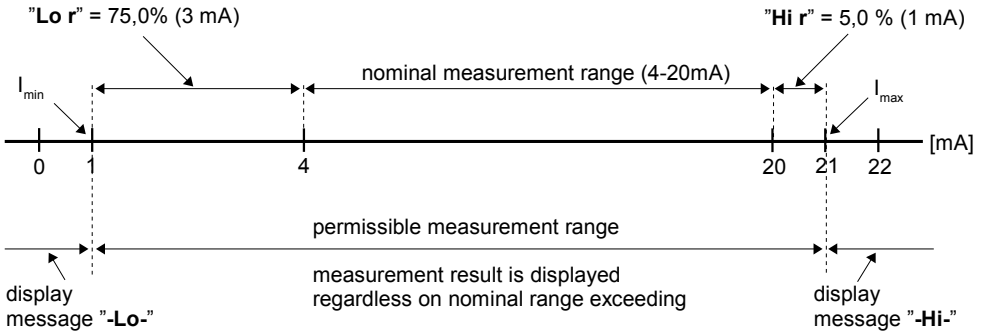

Figure 7.1 Example of definition of permissible range of input signal - "Lo r" and "Hi r" parameters ("4-20" mode)
- these parameters define the expansion of nominal range in percent. They determine the permissible range of input signal (**Figure 7.1**).